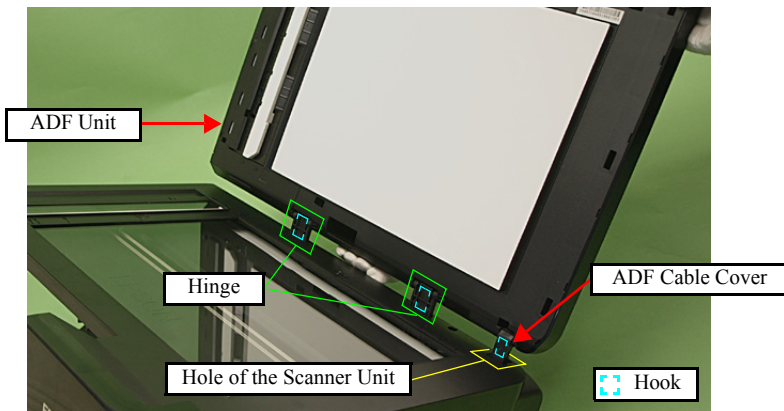

Figure 4-6. Removing the ADF Unit (2)
6. Release the hooks (x2) of the Hinge and hook (x1) of the ADF Cable Cover from the rear side while holding the center of the ADF Unit. (See Fig. 4-6.)